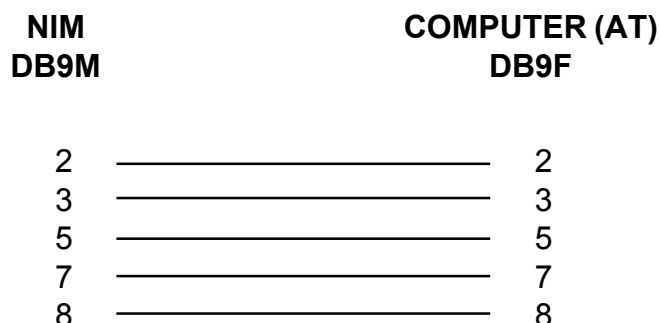

Figure 2-1
The Network Interface Module features two (2) serial communications port. The RS-232 (programming) port has a DB-9, 9-pin female connector. The cable diagrams in Figure 2-1 can be used to construct a serial cable for communications between the port and a personal computer.